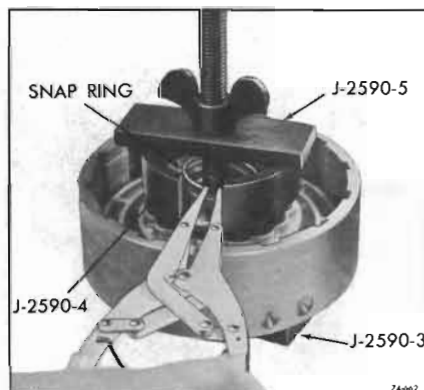

Figure 74-662
6. Compress springs using Clutch Compressor Tool J-2590, and install snap ring. See Figure 74-662.